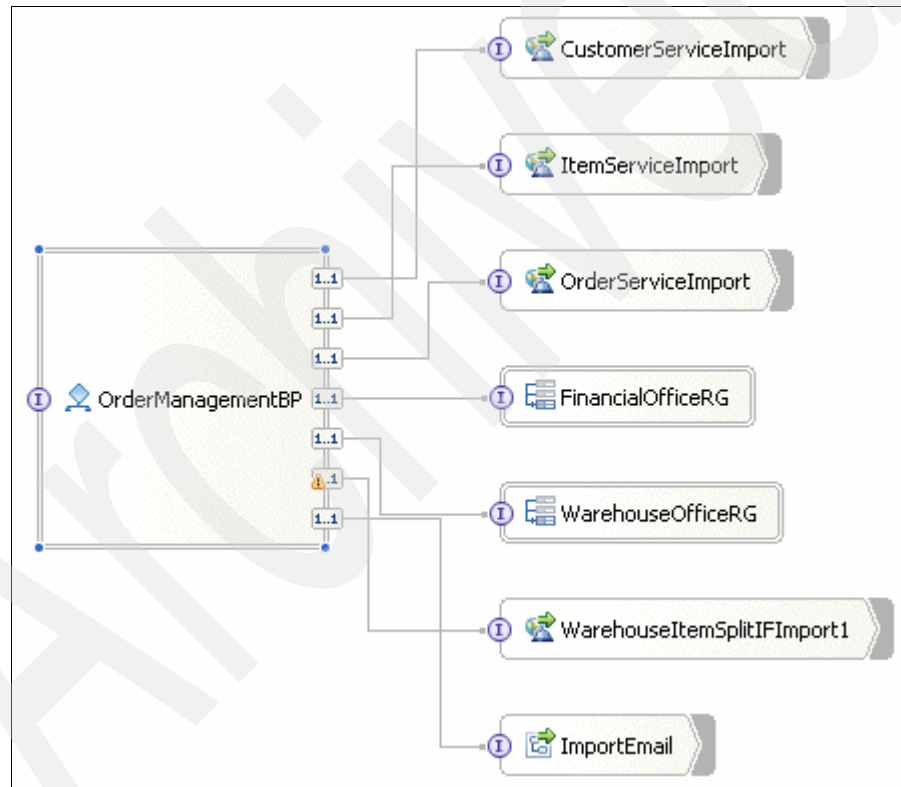

Figure 7-24 OrderManagementBP wired to all import components
5. Verify that the OrderManagement assembly diagram looks as shown in Figure 7-24.